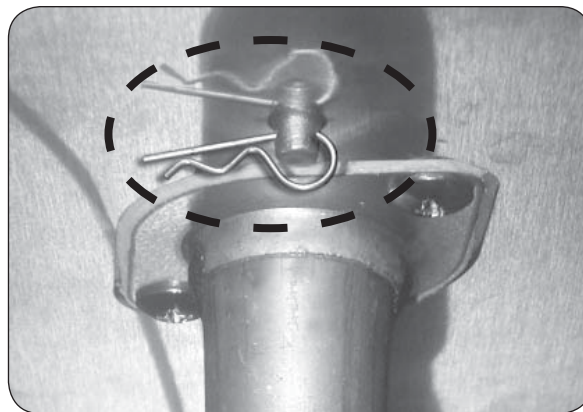

Fig. 14-1 Remove burner clip
3. Reach up under the burner support and remove the burner retaining clip (see Fig. 14-1), located at the rear of the burner pipe.